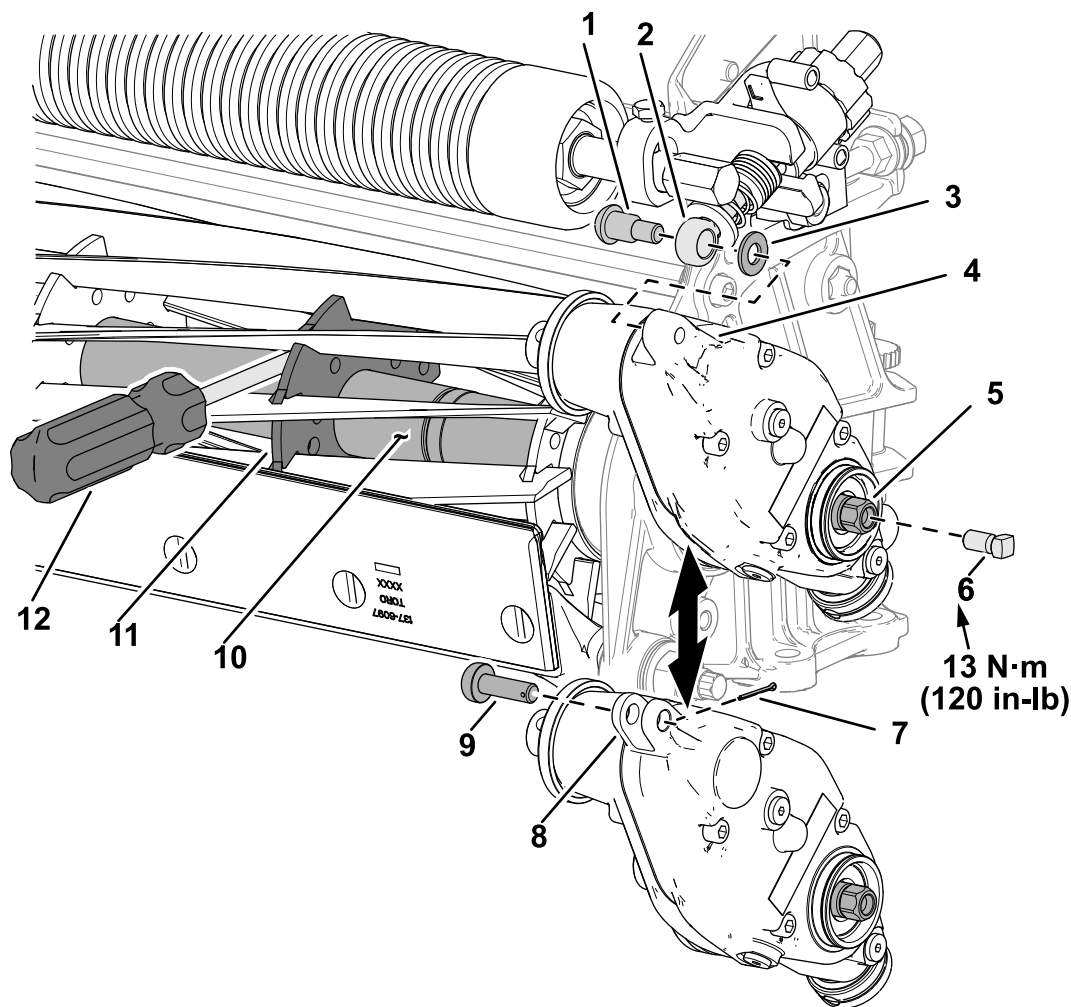

Figure 118
Refer to Figure 117 and Figure 118 for this procedure.
9. Install a 5/16-18 X 5/8 inch square head set screw (Toro Part No. 1-803022) in the end of the drive shaft and tighten to **13 N·m (120 in-lb)**; refer to Figure 118.